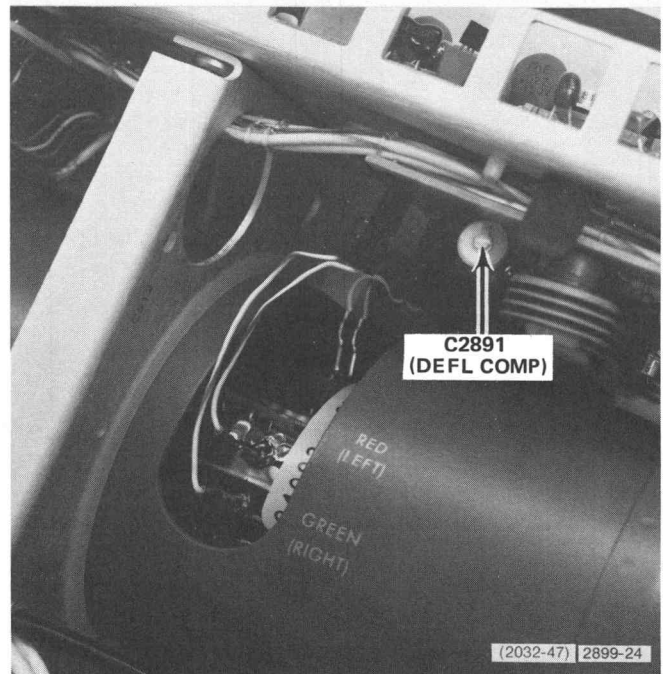

Fig. 5-5. Deflection compensation test points and control.
a. Remove the wire from P1950-1 and touch it to the wire in P1901-2. See Fig. 5-5. The Vectorscope display should be a line at a 45° angle.